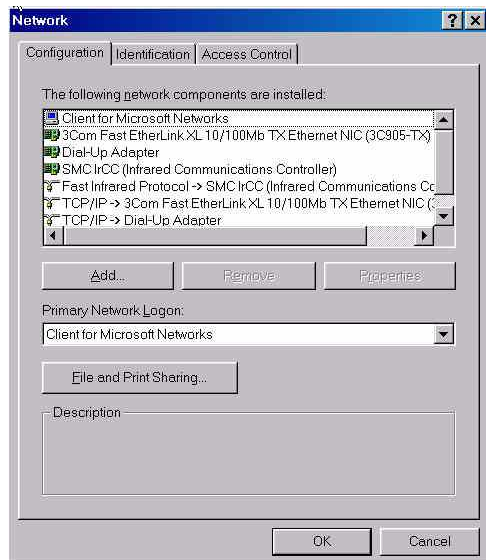

Figure 5 Network Window
2. Select **SETTINGS** and then **CONTROL PANEL** from the pop-up menu. Double-click the **NETWORK** icon on the **CONTROL PANEL** window. The **NETWORK** window appears, as shown in Figure 5.